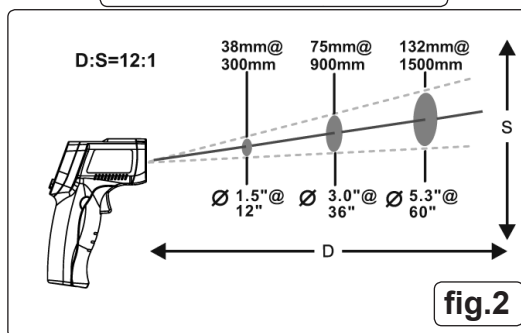

fig.2
- 4.3 Pay attention to the distance from the thermometer to the target as the target surface size increases with distance. A ratio of 12:1 exists, see fig 2. Make sure the target is larger than the unit's spot size. The smaller the target, the closer the distance "D". When accuracy is critical ensure the target is at least twice the spot size.